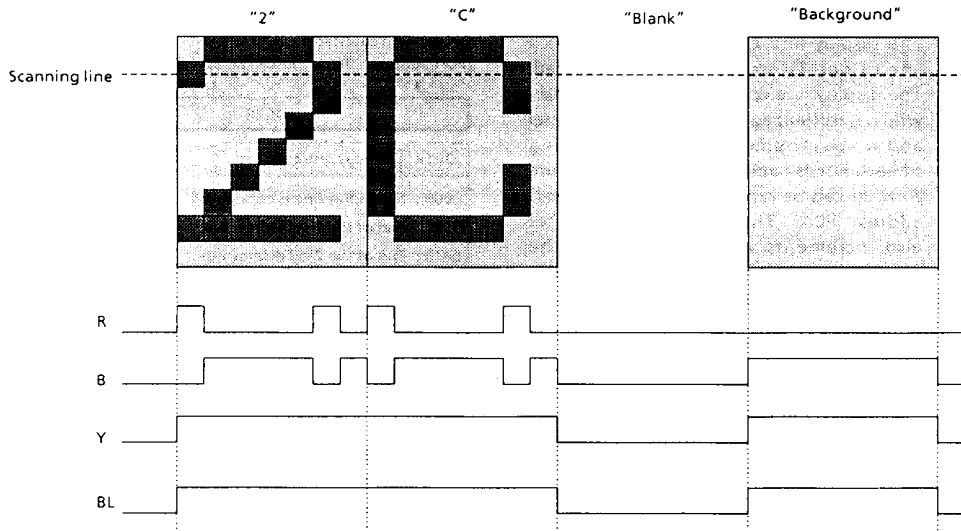
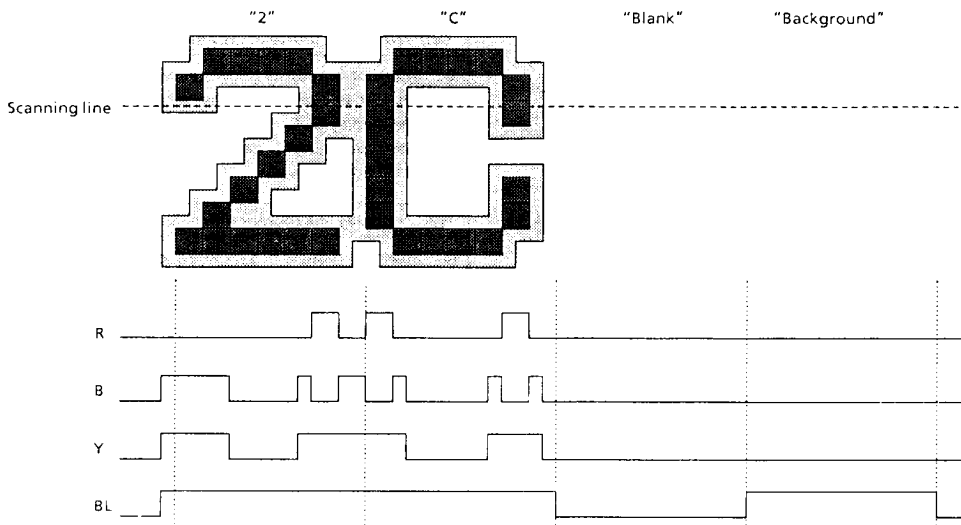

Figure 3-15. Example of OSD Display and Its Wave Form (1)
Figure 3-16. Example of OSD Display and Its Wave Form (2)
Figure 3-15 shows display example (1). The conditions for this example are as follows:
- ① Display data: 2, C, blank data (character code 7FH), background (character code 7EH).
- ② Color data: RDT = 1, BDT = 0, GDT = 0.
- ③ Background color data: BRDT = 0, BBDT = 1, BGDT = 0.
- ④ Fringing and smoothing disabled.
- ⑤ This screen display example is controlled by the R, B and BL signals.
Figure 3-16 shows display example (2). The conditions for this example are as follows:
- ④ Fringing enabled and smoothing disabled.
- ⑤ This screen display example is controlled by the R, B and Y signals.